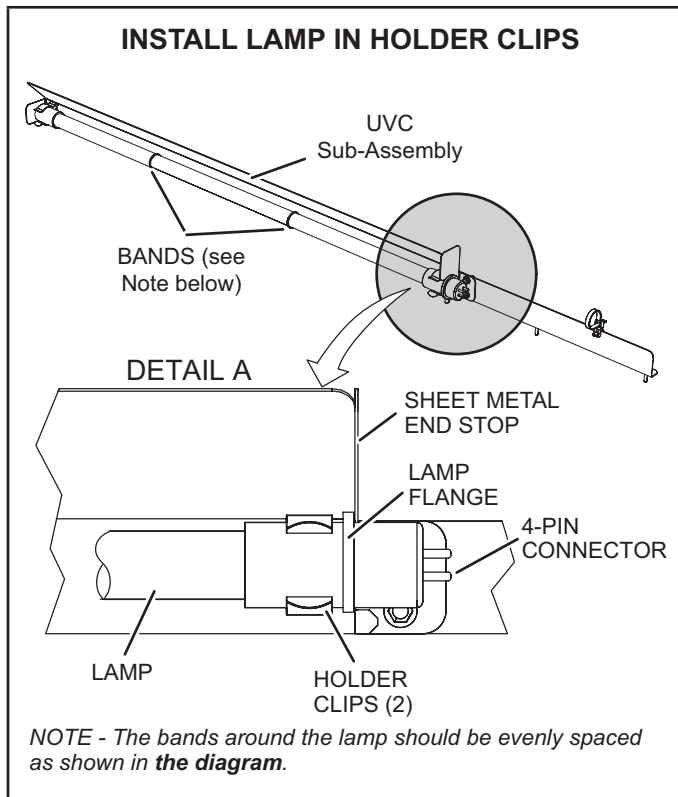

FIGURE 44
- 7 - Wear cotton gloves or use a cotton cloth when handling the new lamp. Place the new lamp in the holder clips of the UVC assembly. Verify that the lamp flange at the connector end is sandwiched between the lamp holder clip and the sheet-metal end stop (see FIGURE 44).